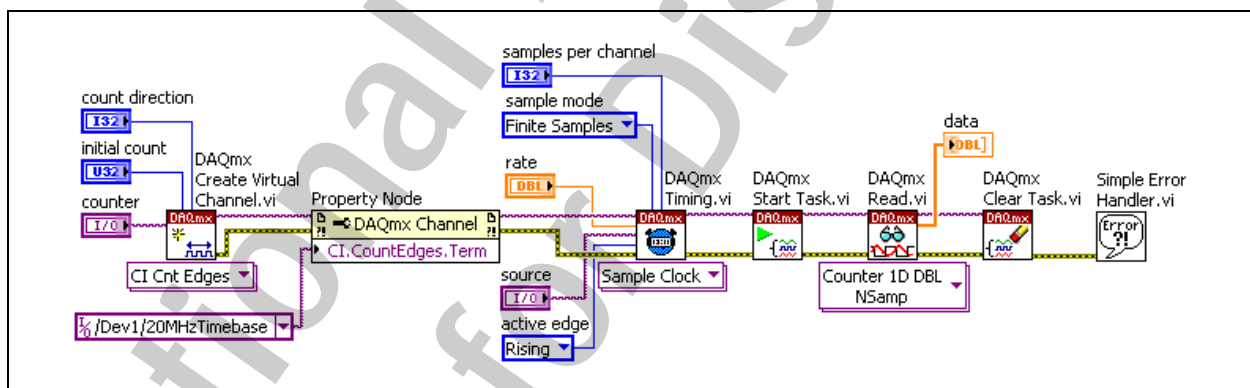

Figure 6-5. Simple Edge Counting - Finite Buffered VI Block Diagram
3. Modify the block diagram to include finite buffering, as shown in Figure 6-5, using the following items: